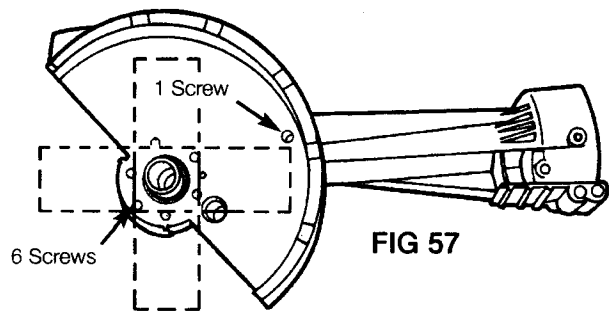

FIG 57
2. Remove 7 screws holding main blade cover/ bearing housing #44019. Fig. 57.